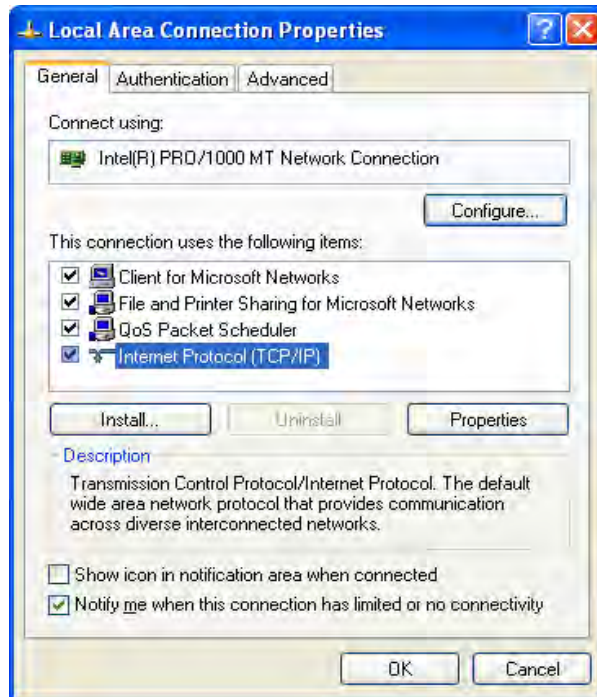

Figure 2-1: Local Area Connection Properties Dialog
4. Right-click the **Local Area Connections** icon and click **Properties** to open the Local Area Connection Properties dialog (Figure 2-1).